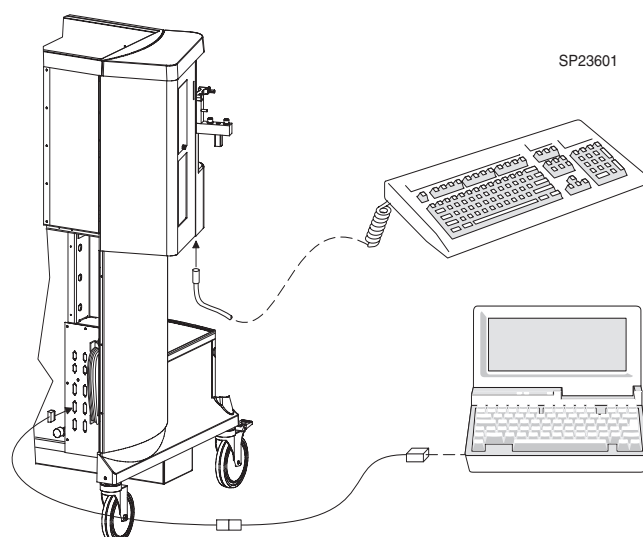

FIGURE 1-1. Keyboard and Laptop Connections
- 1.2 With the NM6400 System Power switch at STANDBY, connect a keyboard P/N 4115133 to the DIN connector on the underside of the NM6400 cockpit area. See FIGURE 1-1.
- 1.3 With the laptop power switched off, connect the Vitalbus cable P/N 4113989-001 or 4113898-002 to any Vitalbus port (J4 thru J7) on the NM6400. Connect the other end of the cable to the laptop's LAN card as shown in FIGURE 1-1.